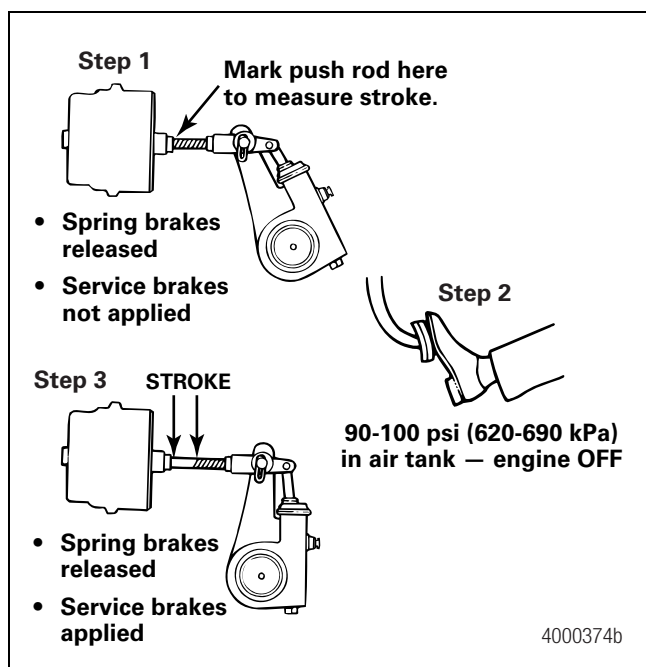

Figure 7.12
3. With the brakes released, mark the push rod where it exits the chamber. Measure and record the distance. Have another person apply and hold the brakes on full application. Figure 7.12. Hold the ruler parallel to the push rod and measure as carefully as possible. A measurement error can affect CVSA re-adjustment limits. CVSA states that "any brake 1/4-inch or more past the re-adjustment limit, or any two brakes less than 1/4-inch beyond the re-adjustment limit, will be cause for rejection."
- Measure the push rod travel or adjusted chamber stroke from where the push rod exits the brake chamber to your mark on the push rod. Measure and record the distance. Figure 7.12.